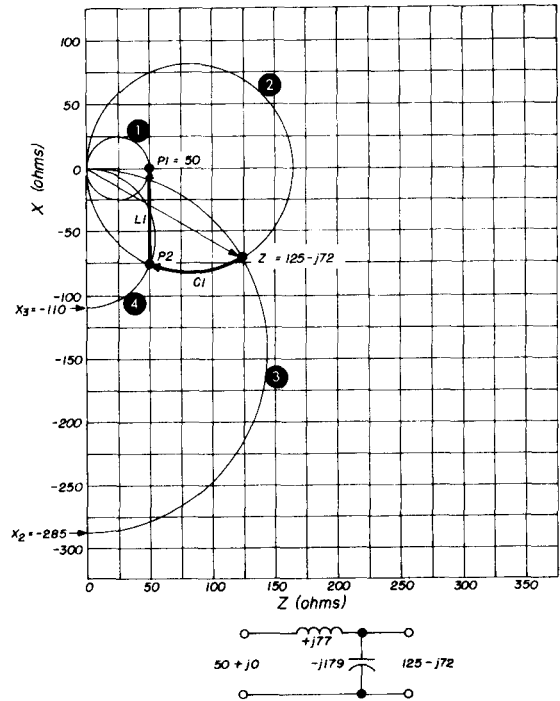

fig. 14. Matching a 50-ohm resistive load to a complex load. The impedance path is from  $Z_L$  to **P2** to **P1**.
**Problem 3.** Match  $50 + j0$  ohm to  $Z_L = 125 - j72$  ohms, a complex load (fig. 14).
1. Construct a 50-ohm circle (1).
3. Construct circle (2) through  $Z_L$ .
5. Construct circle (3) through the origin and  $Z_L$ . It will intersect the vertical axis at  $-285$  ohms ( $X_2$ ).